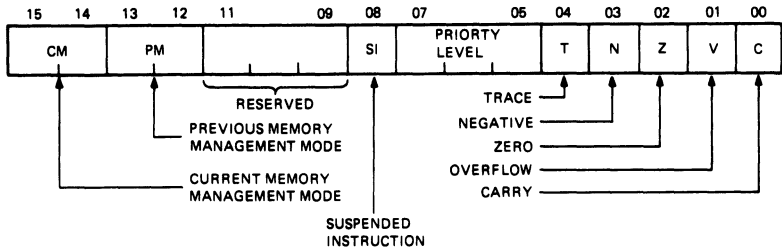

Figure 13-5 Processor Status Word (PS)
The processor status word (PS) is in the data chip and contains information on the current processor status. On the LSI-11/23, the high byte contains additional information not required by the LSI-11, LSI-11/2, and SBC-11/21. As Figure 13-5 shows, this includes: the condition codes describing the arithmetic or logical results of the last instruction, a trace bit that forces a trap at the end of instruction execution (used during program debug), the current processor priori-
ty, an indicator of the previous memory management mode, and an indicator of the current memory management mode. Figure 13-5 illustrates the processor status word.